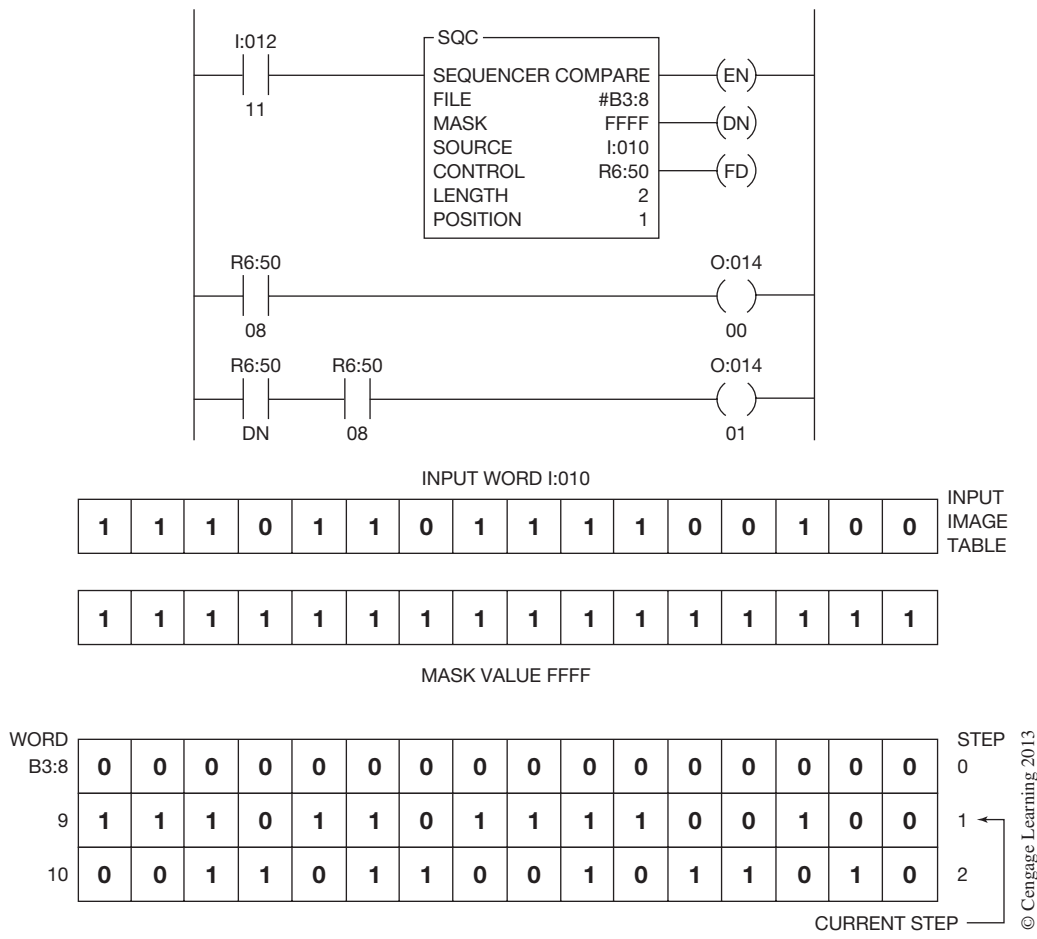

Figure 16–11 SQC Instruction with File Compare
As shown in Figure 16–11, if the bit status of I:010 matches the bit status of B3:9, the processor sets bit 08 (FD) of the control word to 1. If bit 08 of control word R6:50 was programmed to an output device, like the indicator lamp (O:014/00) shown in Figure 16–11, the output device would turn *ON* when bit 08 was set to 1. This light indicates that the input devices of the process machine are operating correctly and the machinery is ready to start producing Product A. If the data of the two words does not match, bit 08 will not be set to 1. The processor will continue to compare the status of input word I:010 with the data stored in Step 1 of the sequencer on each program scan. When the input